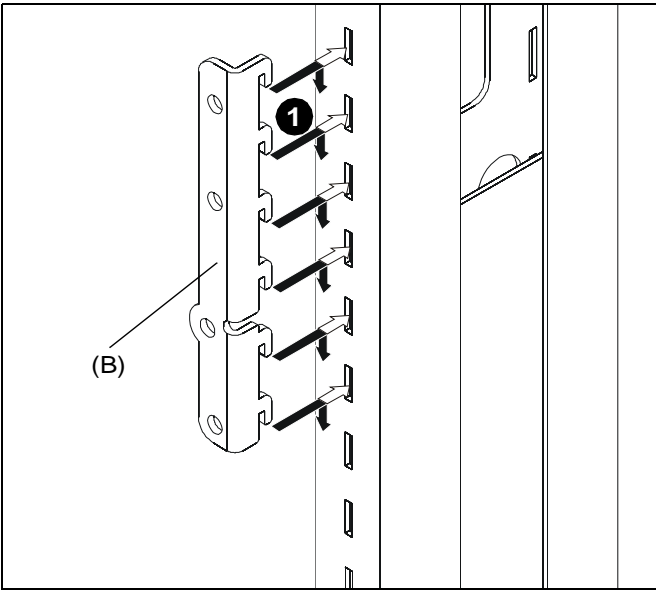

Figure 1
1. Install vertical hooks bracket (B) into vertical bracket at desired mounting height. (See Figure 1)